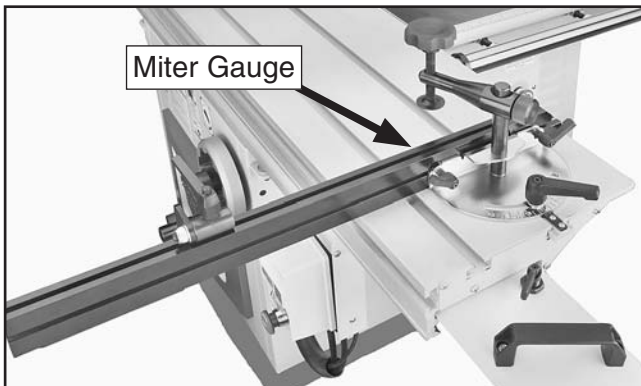

Figure 26. Miter gauge installed.
27. Install the miter gauge as shown in Figure 26.